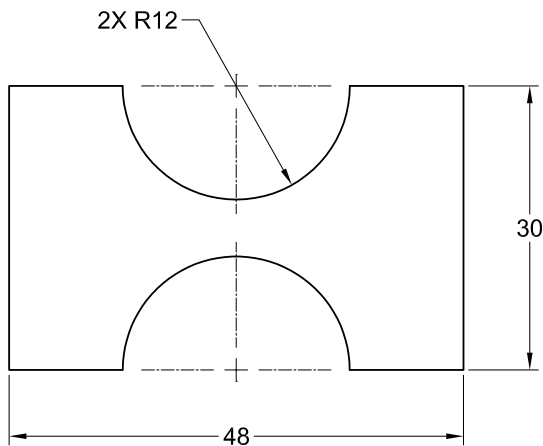
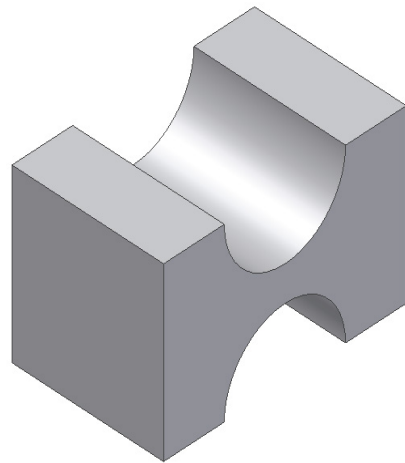

Figure 2-90 Sketch for Tutorial 2
Figure 2-91 Model for Tutorial 2
Draw the sketch shown in Figure 2-90. Extrude the sketch by 10 units and then generate a drawing with the orthographic and isometric views of the model. The isometric view of the model is shown in Figure 2-91. You do not need to dimension the drawing.
- Draw the sketch by using the **Arc** and **Line** tools, refer to Figure 2-90.